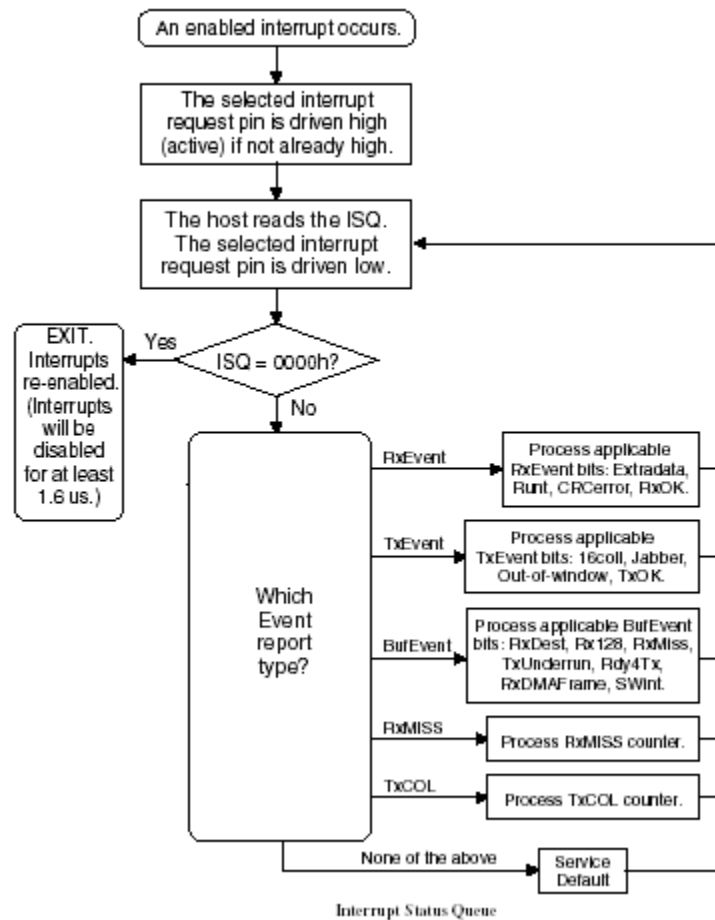

Figure 16-1. Interrupt Handling in the MXC CS8900A Ethernet Driver
- **Interrupt management**—The interrupt service register (ISR) receives events through the ISQ (Interrupt service queue). The ISQ register is used to provide the host with interrupt information. Whenever an enabled interrupt is triggered, the CS8900A sets the appropriate bits in one of the five registers, and maps the contents of that register to the ISQ register. Three of the registers mapped to the ISQ are event registers: RxEvent, TxEvent and BufEvent. For more information, see the Crystal LAN ISA Ethernet Controller data sheet. Figure 16-1 shows the interrupt handling in the driver.